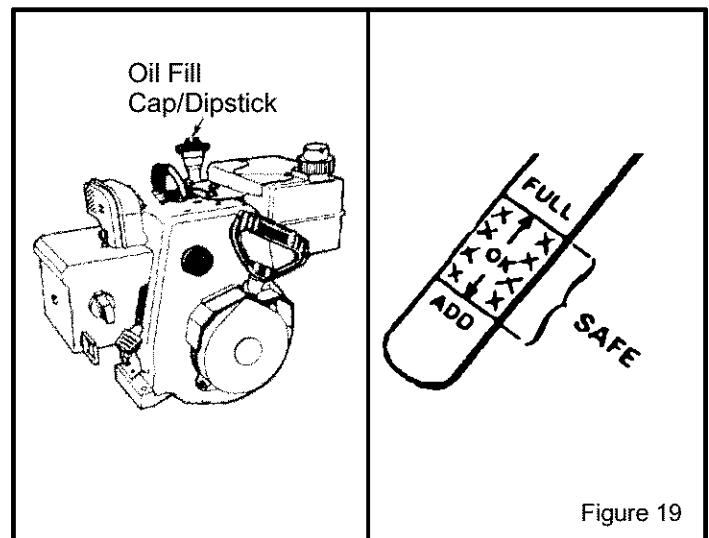

Figure 19
3. If necessary, add oil until the oil reaches the FULL mark on the oil fill cap/dipstick (see Figure 19). Do not add too much oil.